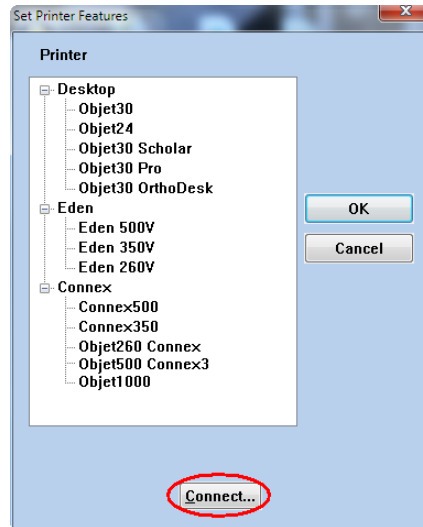

Figure 5-85: Connecting to a printer (A)
2. In the *Set Printer* dialog box, click **Connect** (see figure 5-85).